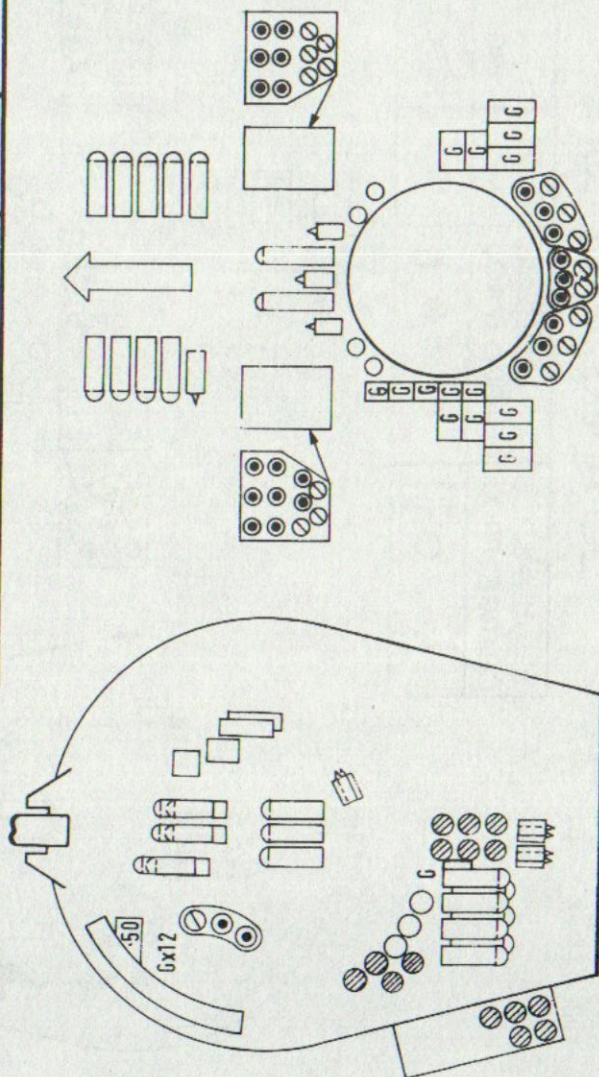

Fig 92 – Stowage of ammunition Mk 5 vehicle
- (2) 25 APDS, 34 HESH, 31 boxes of 7-62-mm, 3 boxes of .50-in RG. This loading will mean that five APDS projectiles will have to be stowed in the external bin. (See Fig 92.)